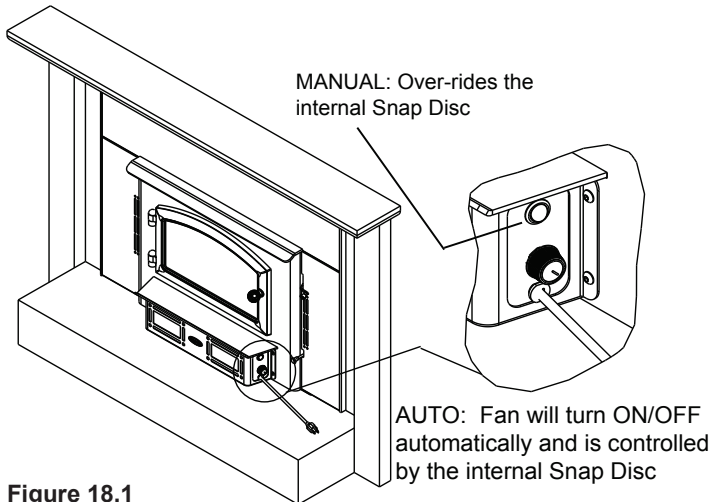

Figure 18.1
1. The blower will turn on/off automatically when set to **AUTO (Figure 18.1)**.